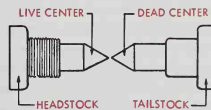
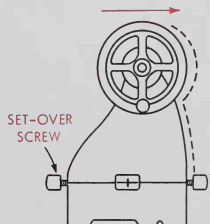

Fig. 10-13. Checking alignment of lathe centers, looking from above.
Fig. 10-14. Setting tailstock.
3. Check the alignment of the lathe centers, Fig. 10-13. The live center should run true. Carefully bring the dead center to within  $1/16$  in. of the live center. If the points of the two centers are not in line, move the tailstock over by adjusting the setover screws, Fig. 10-14.